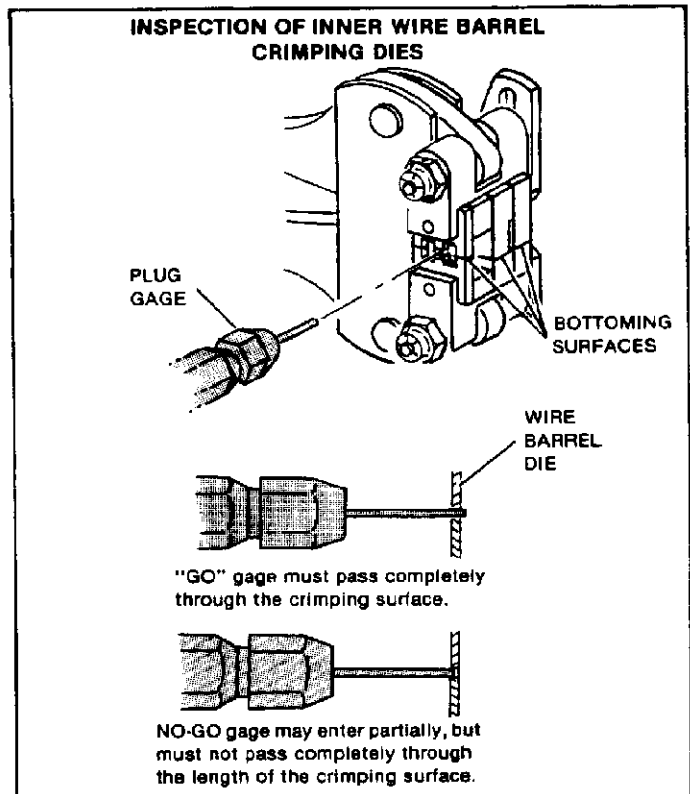

Figure 14
- (c) With crimping jaws bottomed, check inner wire barrel crimp die closure using proper plug gage. Hold gage in straight alignment with tool and carefully try to insert, without forcing, the GO member, then the NO-GO member. See Figure 14. The GO member must pass completely through the inner wire barrel crimp die closure.